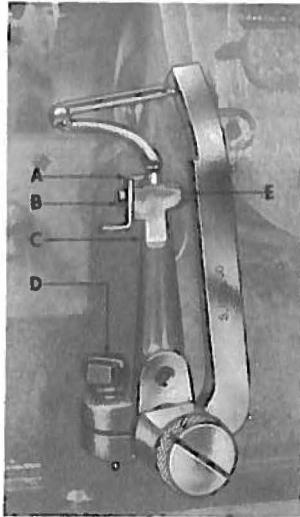
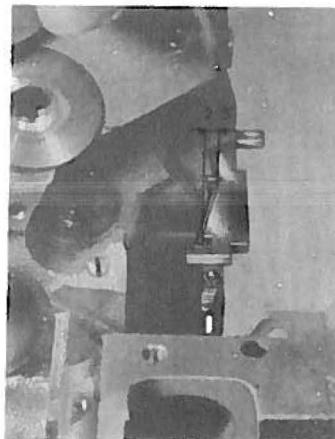

fig. 4
fig. 5
- S. 1552.00 for all operations except operation n.4 (fig.4).
- S. 1555.00 for operation n. 4 (fig.4).
### 4) SETTING PRIMARY LOOPER (fig. 4)
- mount looper height gauge n. S.1555.000 on the primary looper shaft with special screw supplied with gauge as shown in fig. 4.
- Slightly tighten screw E (fig. 4)
-Rest timing gauge n. S. 1552.00 (fig.5) on the milled surface of the base and adjust looper lever C (fig. 4) forward or backward on primary looper lever C until the correct angle of the looper is obtained on timing gauge n. S. 1552.00 (fig. 5).